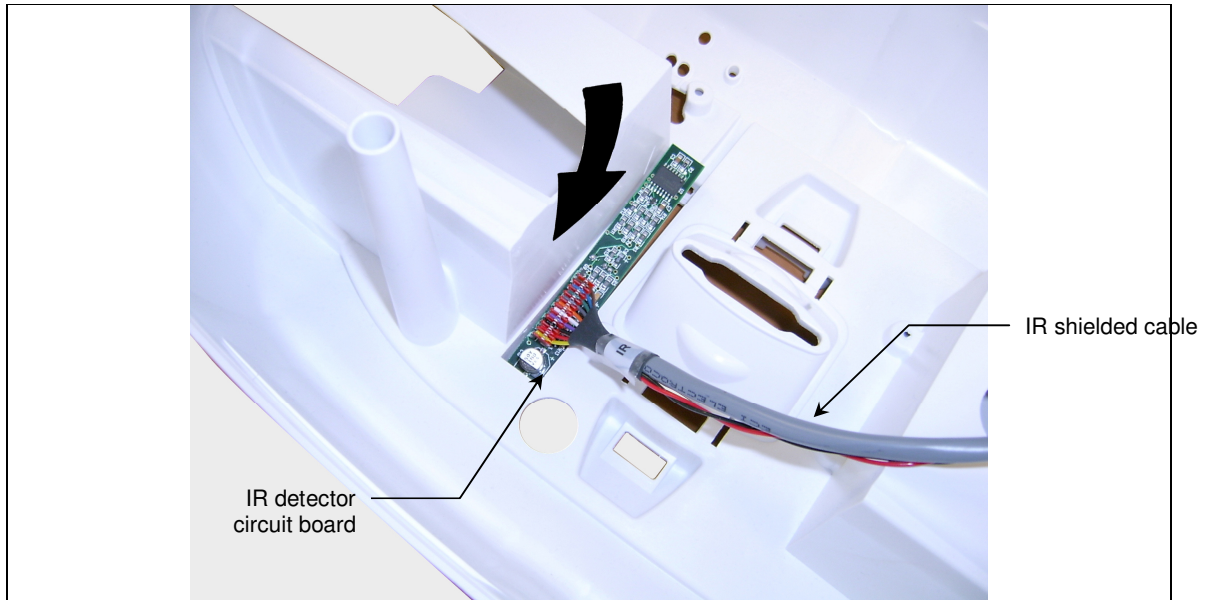

Fig. 4
4) Place the IR detector circuit board in its main shell cavity as shown in figure 4.